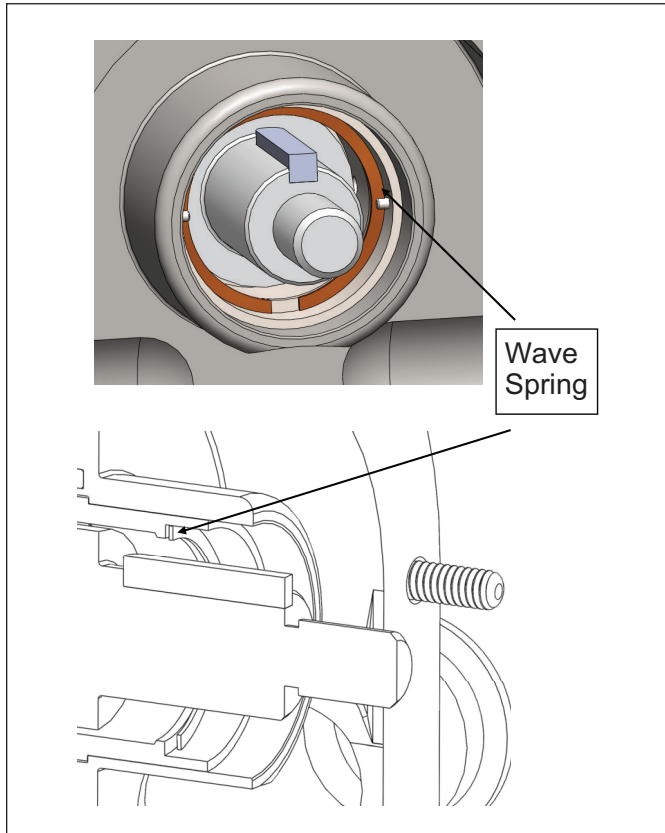

Figure 27. Inserting
1. Start by inserting the wave spring into the sleeve making sure that it sets below the stationary drive pins (Figure 27).